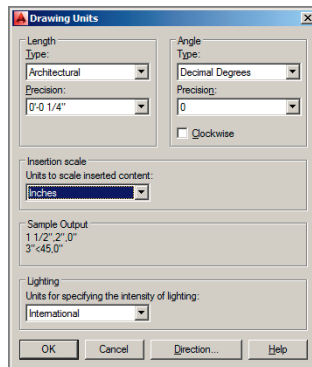

FIGURE 14.6 Setting architectural drawing units
4. Type **UN** (for Units), and press Enter. Choose Architectural units (or Decimal units in metric) with a precision of 1/4" (metric users choose a precision of 0.0). Set Units To Scale Inserted Content under the Insertion Scale area to Inches (or Centimeters in metric) (see Figure 14.6). Click OK.